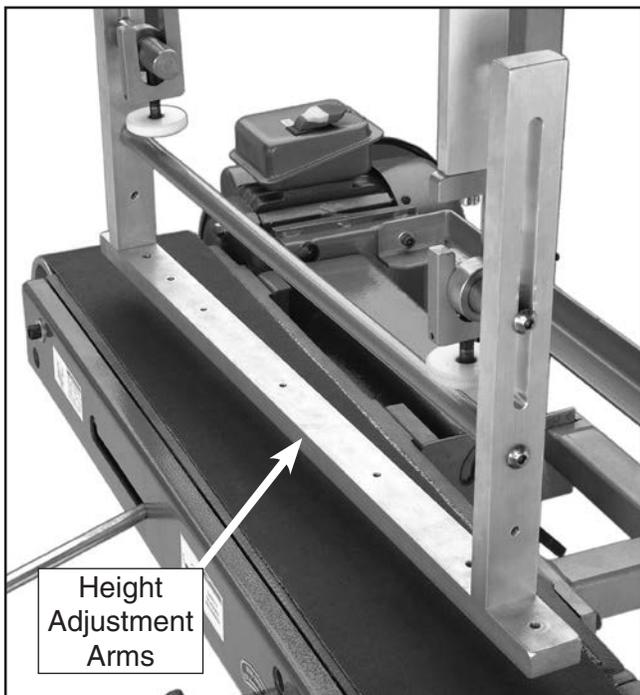

Figure 11. Swing arm placement.
- Place the swing arm into the hanger openings as shown in **Figure 11**.